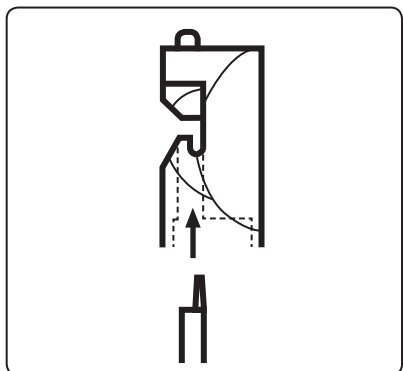

Fig. 6
4. Place the holder on to the die and secure it in place by tightening the lock nut (fig. 6).